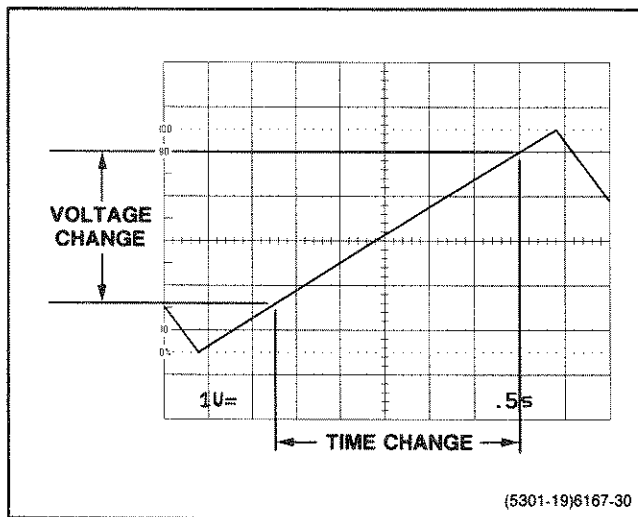

Figure 6-10. Slope.
3. Set the SEC/DIV switch to horizontally spread the portion of the waveform to be measured across the width of the graticule area (see Figure 6-10).
EXAMPLE: In Figure 6-10, the voltage difference between measurement points is 1.74 V, and time difference is 2.71 s.